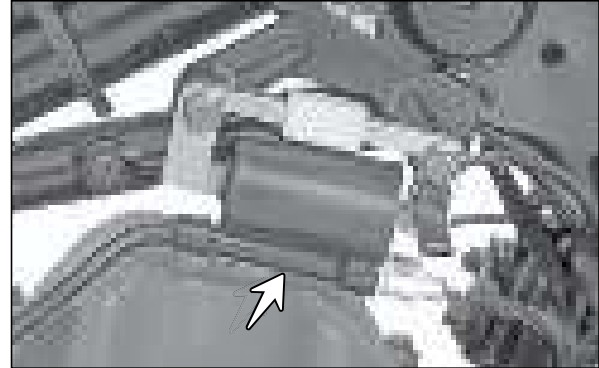

Fig. 5.11
- The ignition coil is mounted on the right side of the frame below the fuel tank assembly, near the cylinder head assembly. (Fig. 5.11)